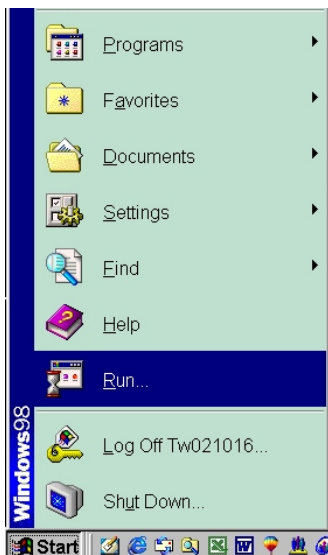

Fig. 4
2. Click Start, choose Run at start menu of Windows 95/98 as shown in Fig. 4.